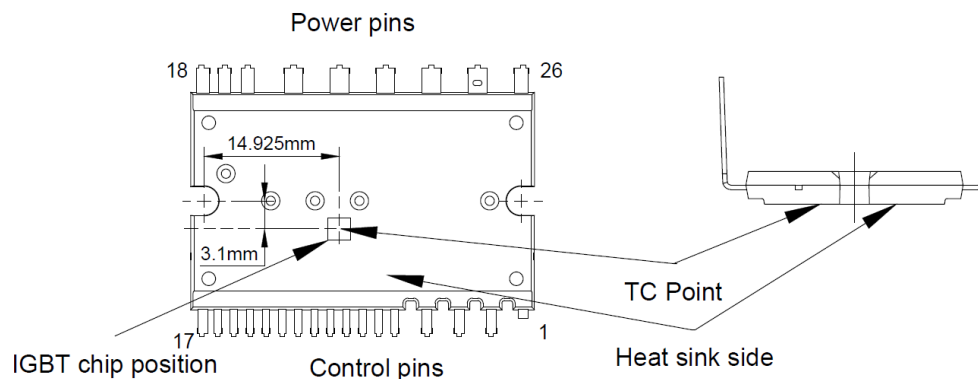

Figure 1. T_C Measurement Point
1. For the measurement point of case temperature (T_c), please refer to Figure 1.